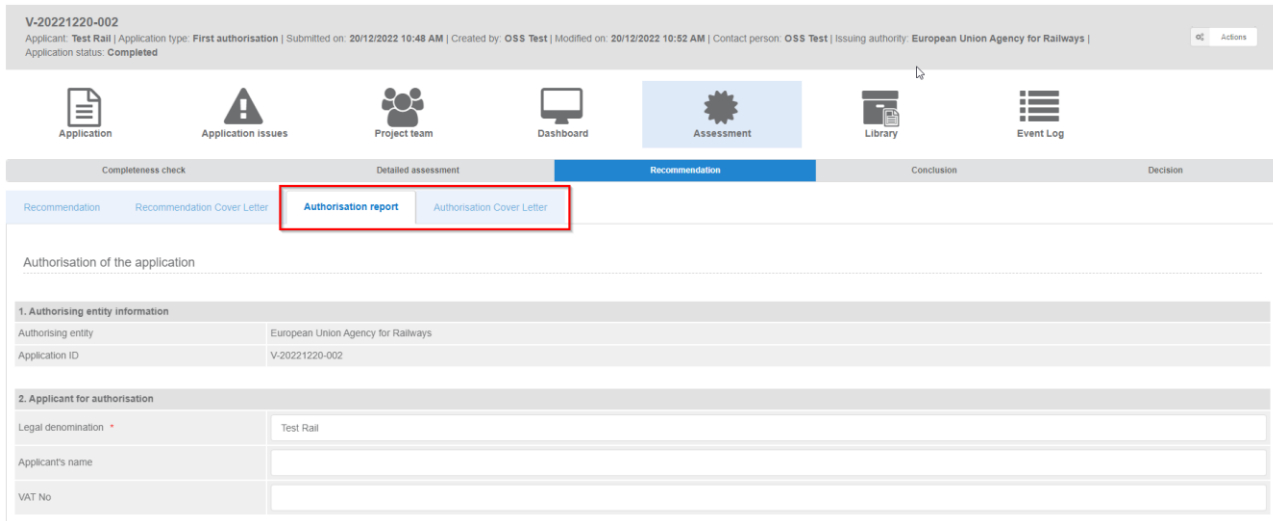

Figure 139: Authorisation Report and Cover Letter
4.6.3. Submit VA authorisation report (VA)
For the Vehicle Authorisation (VA) applications in the Recommendation phase the Decision Maker is able to prepare and submit the Authorisation Report and the respective cover letter, as shown in Figure 139: Authorisation Report and Cover Letter.